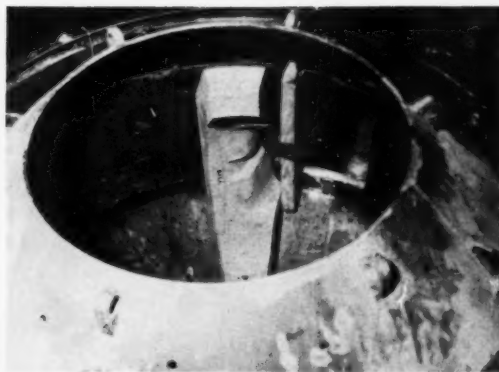
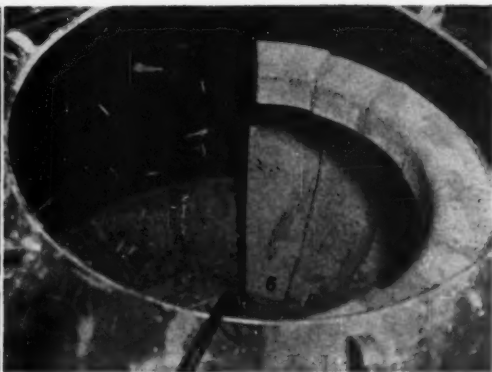

Fig. 2—The first sillimanite course sector has been placed beginning at the door sill. Correct placement of block is important to whole operation.
Fig. 3—Several sillimanite course sectors have been bonded and positioned. Manufactured shells come supplied with drilled holes for supporting studs.
- (1) Remove shell from base, stand end on floor and remove detachable end plate.
- (2) Remove old lining.
- (3) New types of manufactured shells are supplied with two rows of drilled and tapped holes around the shell's cylindrical part. These are used for refractory supporting studs. (See Fig. 3). If the shell is not equipped with these holes, they should be drilled and tapped before proceeding. Locate the holes by setting refractory shapes in place loosely, then drill and tap two holes for 3/8-16 in. bolts behind each circular course. These holes will also serve as vents when drying and pre-heating the new lining.
- (4) Thickness of the outer lining behind the end disc is 2-1/2 in. for 350, 500 and 700 lb furnaces. This can be provided in several ways:
(7) When there is assurance of a good fit of the refractory lining, proceed with the permanent laying-up of the circular sectors, starting with the door sill clamped in place as shown in Fig. 2. The first piece must be located carefully and in line, or each successive piece will give trouble. Wetting the bonding surfaces of the refractory shapes before applying air-set cement will prevent rapid drying of the cement and make it easier to slide the blocks in place and to obtain uniform joints. Trowel a full joint on the bonding face and on the end that fits against the end disc, then slide and tap into place, squeezing out excess cement. (Fig. 3).